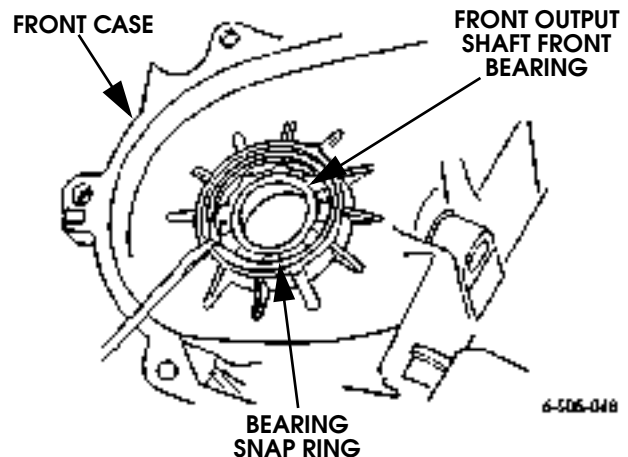

Figure 5-117: Front Output Shaft Front Bearing Snap Ring Removal/Installation
1. Remove snap ring securing shaft front bearing in front case (Figure 5-117).